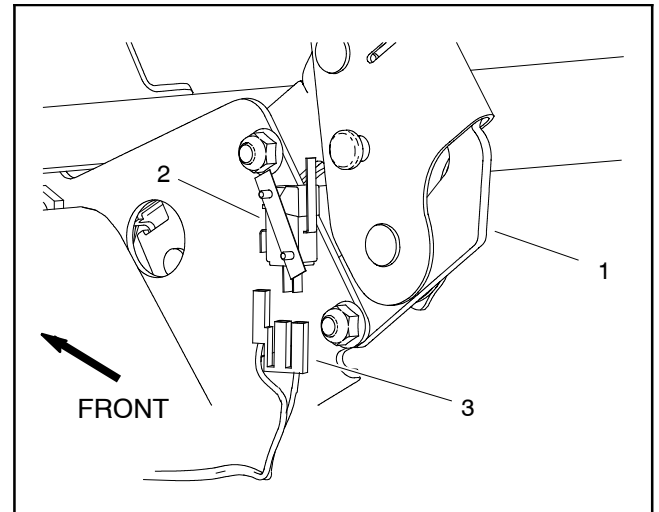

Figure 25
The parking brake switch is used as an input for the vehicle controller to identify when the parking brake is applied. The parking brake switch is attached to the parking brake mount behind the dash (Fig. 25).
3. Disconnect wire harness electrical connector from the brake switch (Fig. 25).